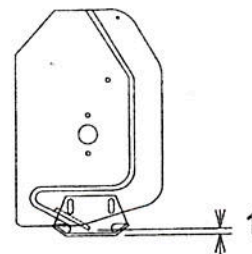

Figure 13
**Level Paved Surface:** Adjust skid shoes to allow 3/16 to 1/4" clearance (fig. 13, item 1) between cutting edge and surface.
**Uneven or Gravel Surface:** Adjust skid shoes to allow 1/2" to 5/8" clearance (fig. 13, item 1) between cutting edge and surface.